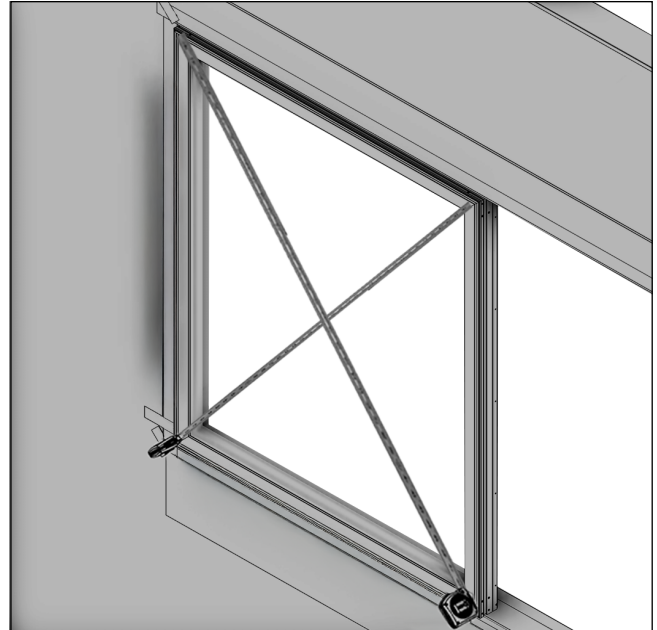
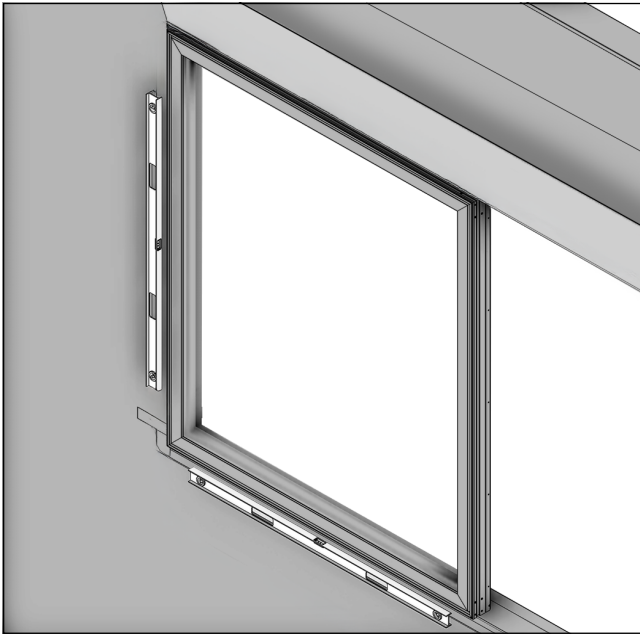

Figure 72
Figure 73 Square and true
11. Ensure window is level, plumb, square and true. See Figure 72 and Figure 73.